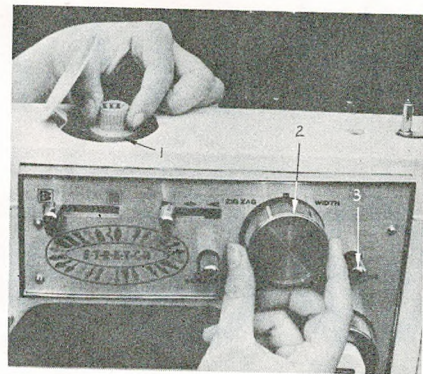

Fig. 45
1. Be sure the zigzag presser foot is on the machine, and the zigzag stitch locking knobs (3, in fig. 45) are in off positions.